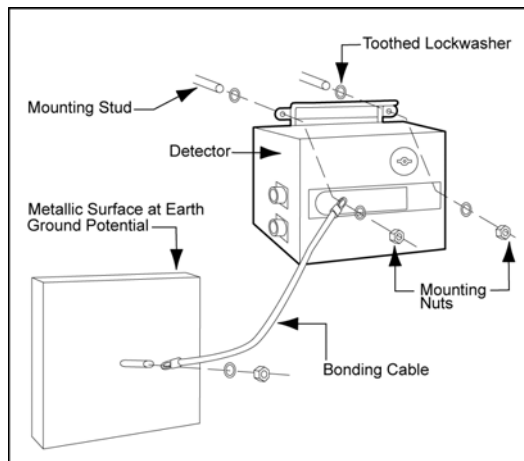

Figure 9. Bonding with Bonding Cable
3. Mount the system components in location, and connect the other end of the bonding cable to the mounting bracket. Refer to Figure 9. Bond with Bonding Cable.